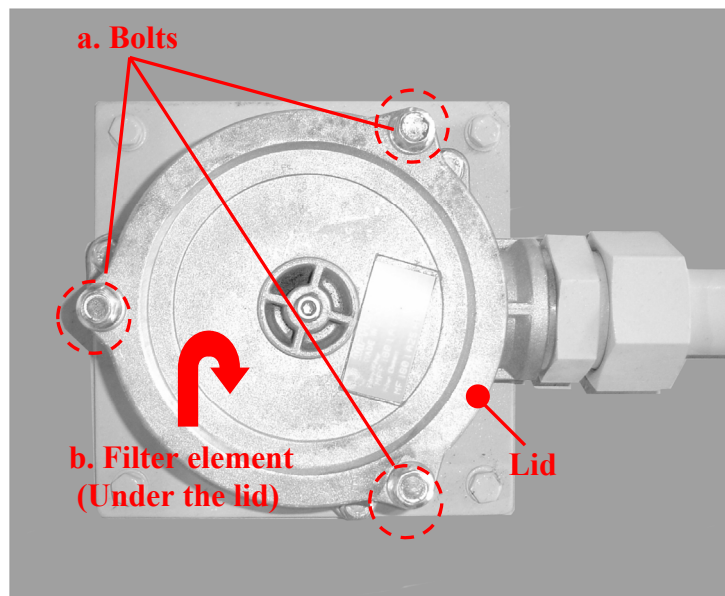

Fig.6.6.8.1
1. Remove the bolts (see fig.6.6.8.a)